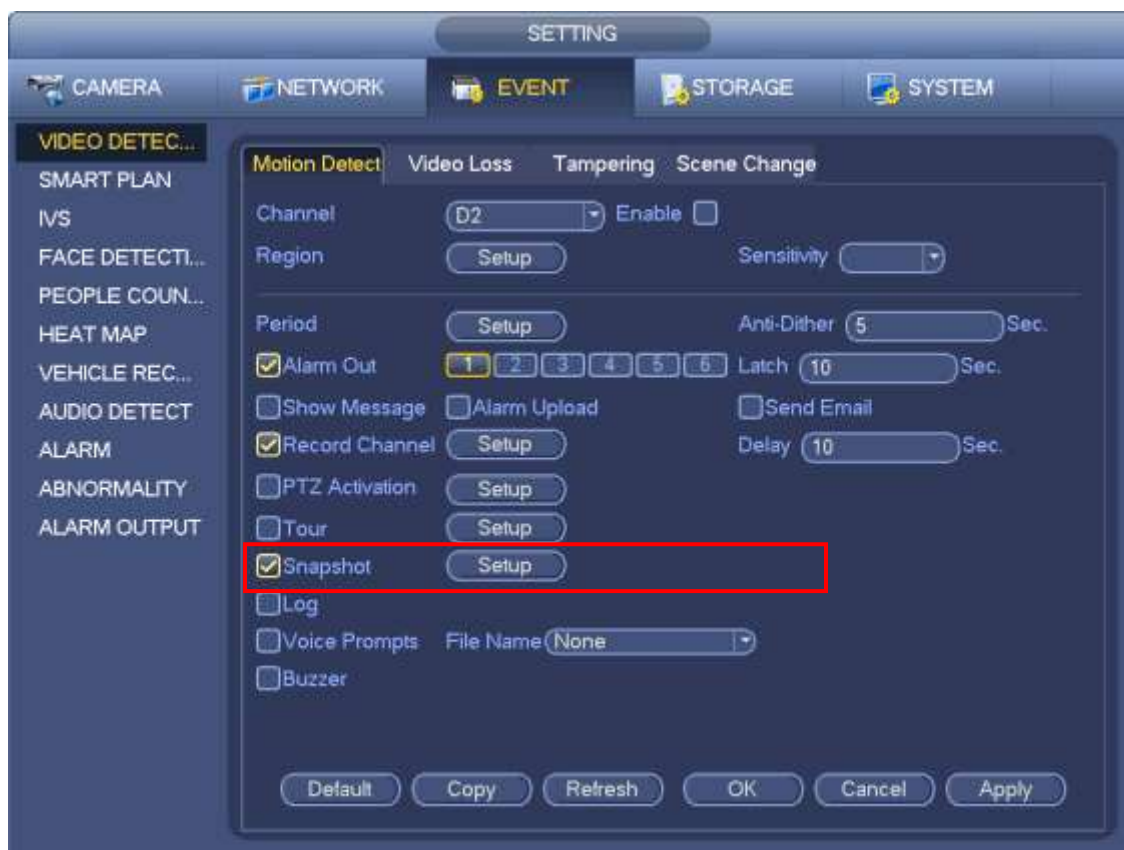

Figure 4-39
- When the record type is MD (motion detect), alarm, MD&Alarm, IVS, please enable the channel snapshot function when corresponding alarm occurs. For example, when the alarm type is MD, from main menu->Setting->Event->Video Detect->Motion Detect, please select the snapshot channel and enable snapshot function. See Figure 4-39.